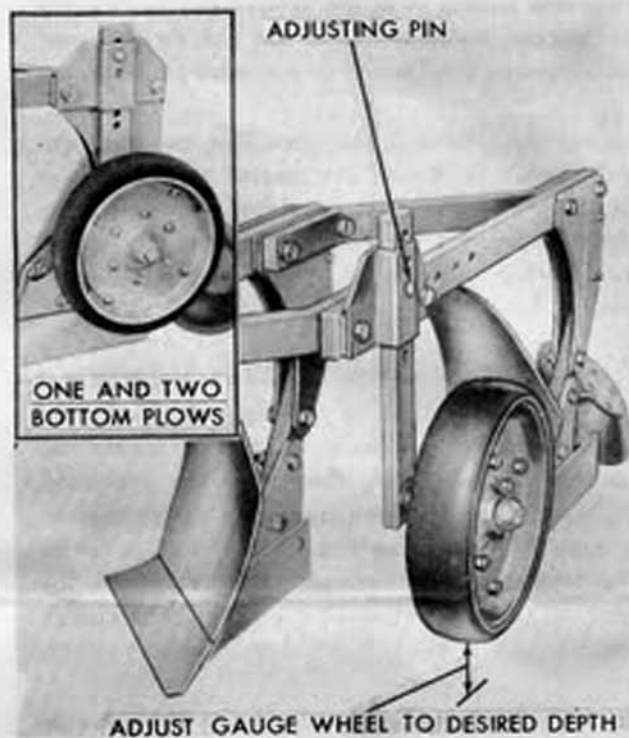

Figure 5 - FMD Gauge Wheel Assembly
**Depth Control - FMD Tractor:** When operating with a Fordson Major Diesel Tractor, plowing depth is gauged by means of the gauge wheel shown in Figure 5. The wheel may be positioned toward the inside if desired. See inset, Figure 5, for proper location of the gauge wheel on one and two bottom plows.
When operating the plow with a Fordson Major Diesel Tractor, depth is gauged by a gauge wheel as previously outlined and shown in Figure 5. Lower the plow to the desired depth, then raise the hydraulic control lever to be sure the tractor is carrying most of the weight. Return the hydraulic control lever to the "hold" or neutral position. The tractor should carry the bulk of the weight of the plow for maximum traction.